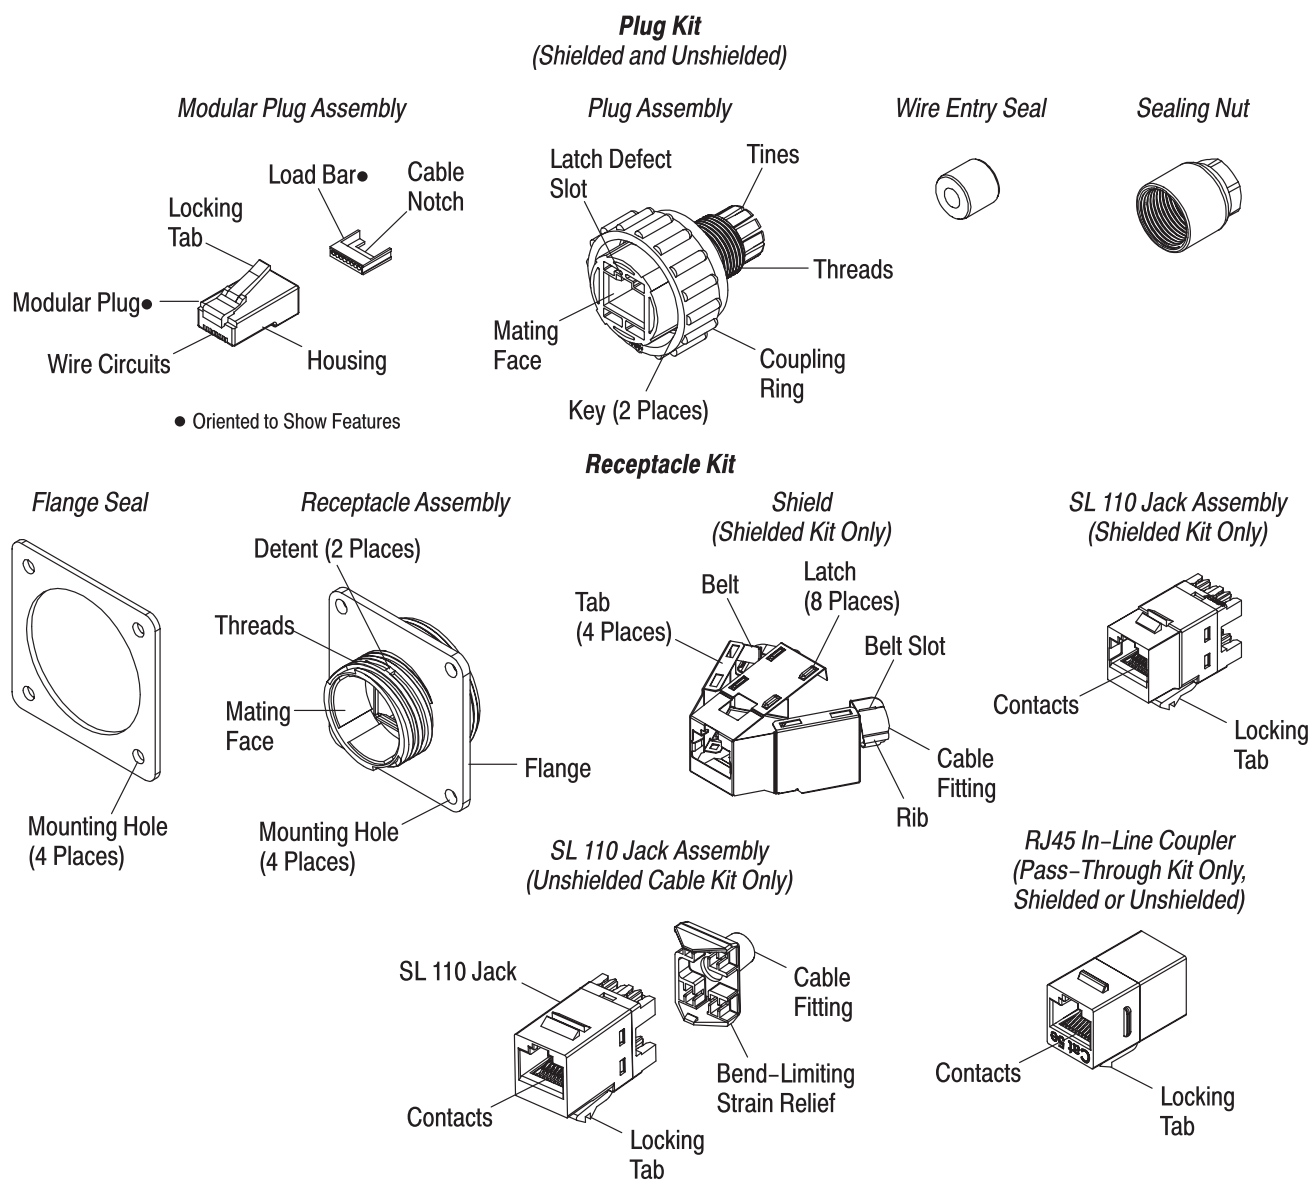

Figure 1
When corresponding with personnel, use the terminology provided in this specification to facilitate your inquiries for information. Basic terms and features of this product are provided in Figure 1.
- Modified Section 1, Figure 1, Paragraph 3.1, and Figure 15